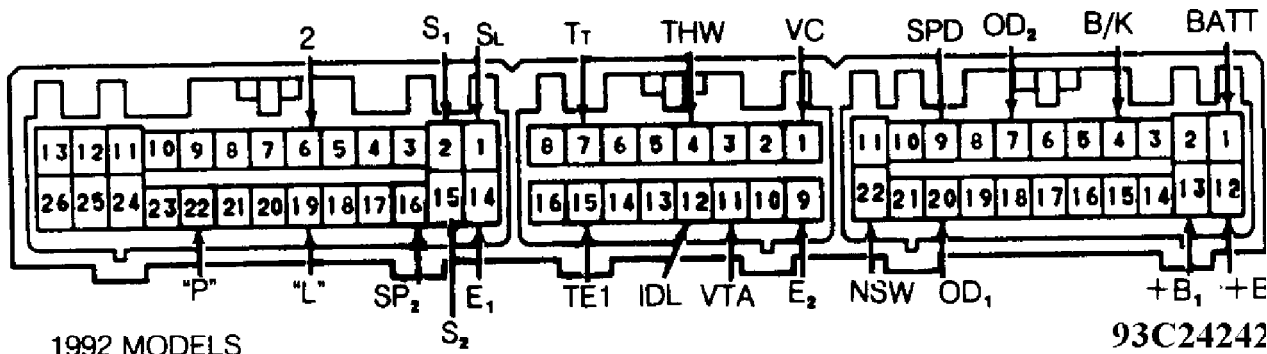

Fig. 14: ECU Terminals & Checking ECU Voltages (Celica - 2 of 3)
5) Check for 10-14 volts between terminals "L" and E1 on ECU with connector installed on ECU with shift lever in "D" position and ignition on. See Figs. 14 and 16. If 10-14 volts exist, check for defective neutral start switch or wiring circuit. If 10-14 volts does not exist, replace ECU.